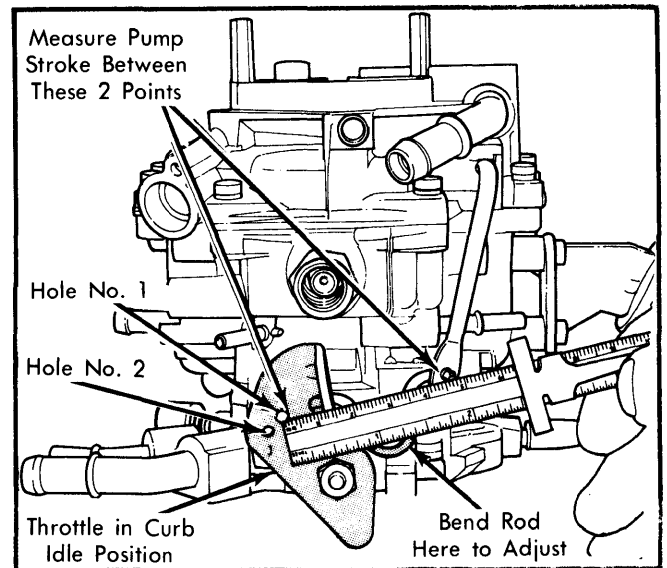

Fig. 2 Adjusting Accelerator Pump Stroke
1) Place throttle lever in curb idle position. Make sure accelerator pump rod link is installed in correct hole in throttle lever. See Fig. 2.
3) To adjust, bend the accelerator pump rod at the point shown in Fig. 2.